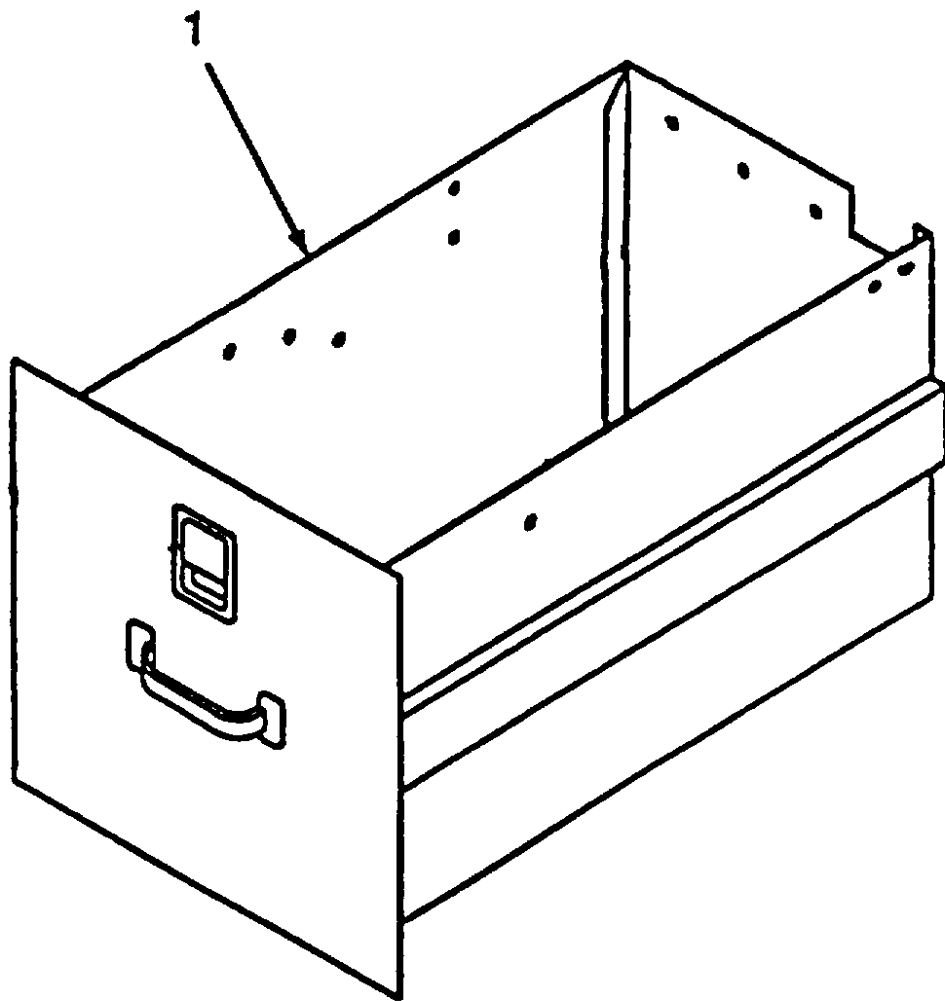

Figure 5-6. Battery Box
- a. Repair. (Refer to Figure 5-6).